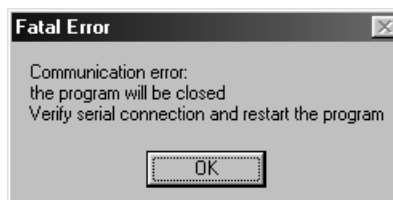

Figure 33 Communication Error Message
- “Communication error: the program will be closed. Verify serial connection and restart the program,”** as shown in Figure 33